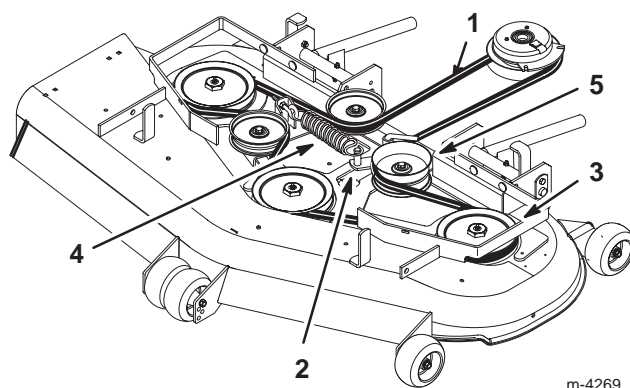

Figure 57
Note: Start at the outside pulley and rotate the belt off (Fig. 57).
8. Install the idler pulley and route the belt onto the other pulleys (Fig. 57).